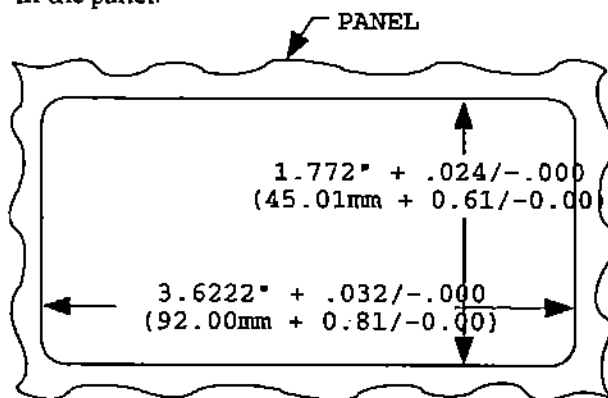

Figure 5-12. Panel Cutout Dimensions
2. Using the panel cutout diagram shown in Figure 5-12, cut a hole in the panel.